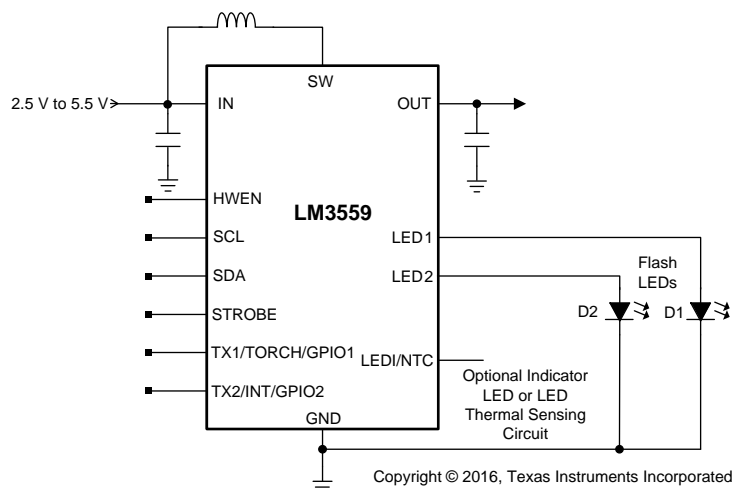

Figure 43. LM3559 Typical Application
Choosing the correct size and type of input capacitor helps minimize the voltage ripple caused by the switching of the device boost converter, and reduces noise on the input terminal of the boost converter that can feed through and disrupt internal analog signals. In the Figure 43 a 10-μF ceramic input capacitor works well. It is important to place the input capacitor as close as possible to the device input (IN) pin. This reduces the series resistance and inductance that can inject noise into the device due to the input switching currents. Table 20 lists various input capacitors that TI recommends for use with the LM3559.